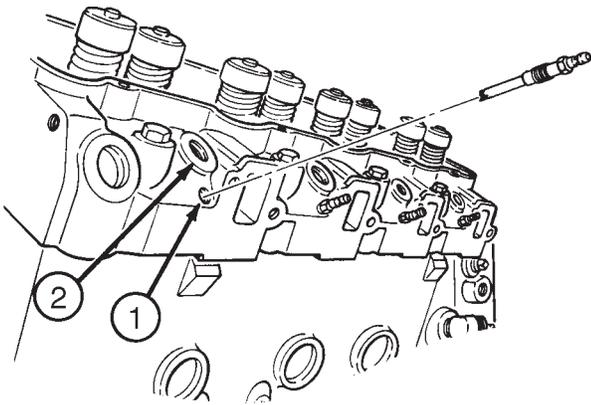

Figure 4-13. Glow Plug Removal
H. CHECK FOR ENGINE MECHANICAL OR HYDRAULIC SEIZURE (Figure 4-13)